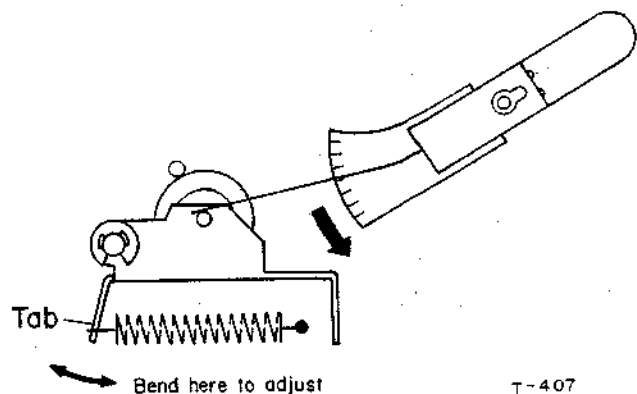

Fig. 14 Pinch Roller Pressure Measurement
4. Attach the spring scale to the Pinch Roller shaft as shown in Fig. 14.